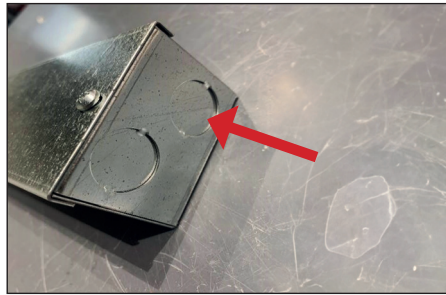

Fig. 7 - Knock-out
- Bring building mains power wires to Remote/Semi-Remote driver box through side knock-out. [Fig. 7]